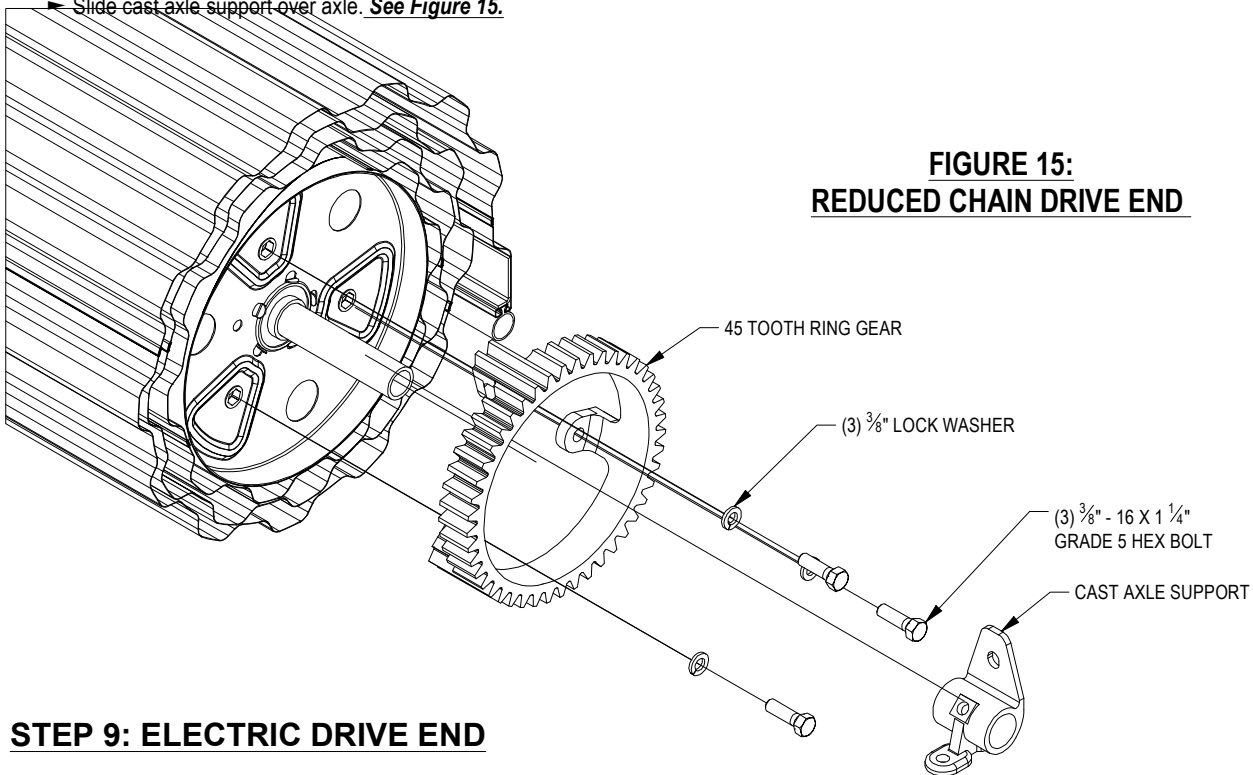

FIGURE 15:
- Fasten 45 tooth cast ring gear to drum using three (3) each $\frac{3}{8}$ " - 16 x 1 - $\frac{1}{4}$ " grade 5 hex bolts and $\frac{3}{8}$ " lock washers.
- Slide cast axle support over axle. **See Figure 15.**